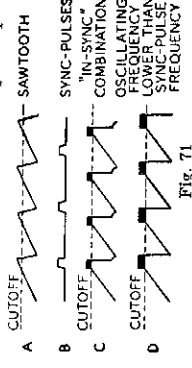

FIG. 71
are also applied to the grid of V₁. The waveforms shown in Fig. 71 illustrate the sawtooth and sync pulses (A and B) and their proper "in-sync" combination (C). The sync pulse occurs partly during the portion of the sawtooth voltage in which the triode V₁ draws current. Any shift in sync pulse as it is superimposed
For example, waveform D in Fig. 71 illustrates a condition in which the sawtooth voltage is advanced in phase with respect to the sync-pulses. The widening of the pulse which occurs at the corner of the sawtooth waveform allows the control tube to conduct more current and, consequently, allows the capacitor C₁ to charge to a higher voltage. This increased reference voltage also appears in the grid circuit of V₂ and makes the grid more positive. The increased grid voltage then speeds up the frequency of oscillations until proper synchronization results.